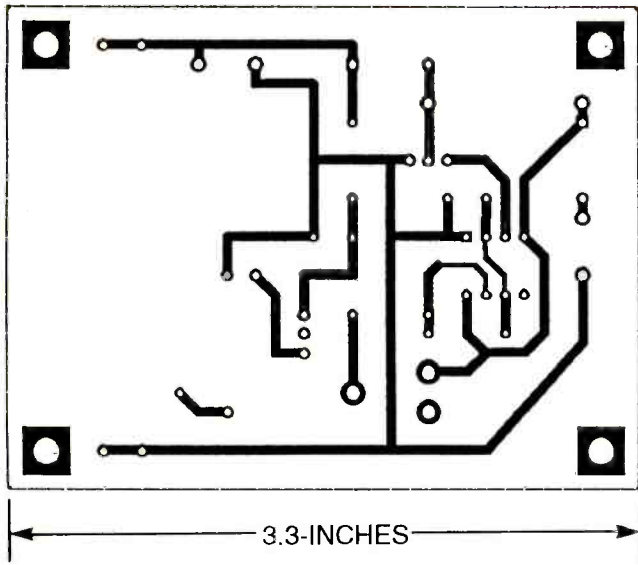

Fig. 2. Foil pattern for the strobe light PC board. A PC board is recommended because of the high voltages involved.
**Construction.** The use of a PC board is highly recommended for this project because of the high voltages involved. Figure 2 shows the foil pattern for a PC board you can make yourself, and Fig. 3 is the parts-placement diagram. Be careful of the polarity when installing D1, D2, Q1, C2, and the socket for U1. Remember to cut the tab off SD1